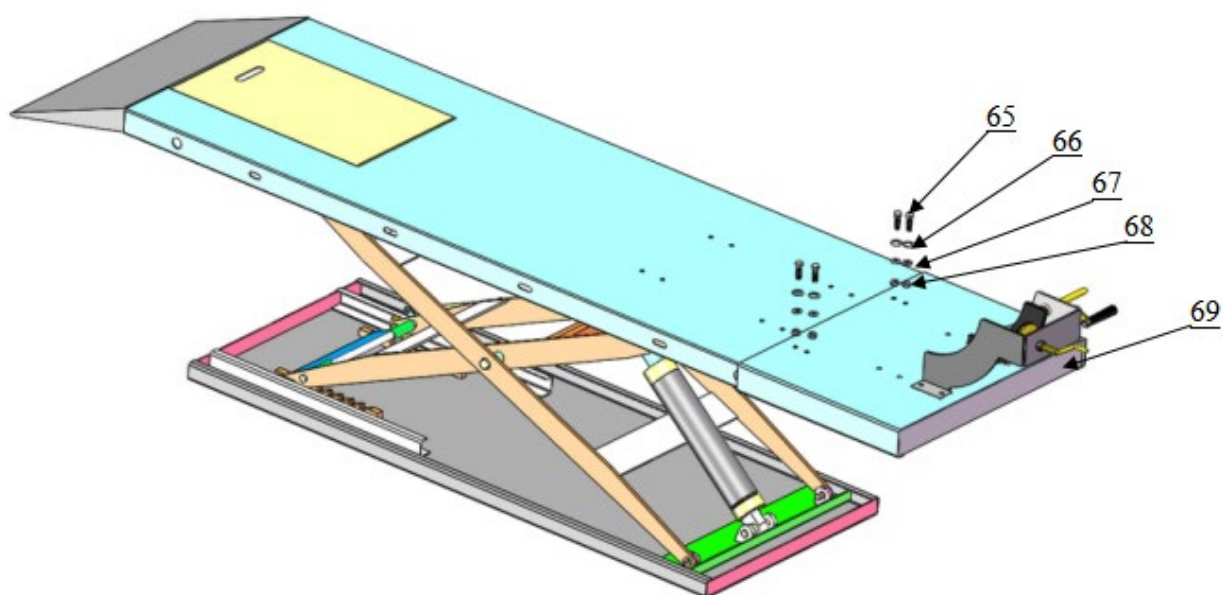

Fig.11
***G. Install optional Length extension kit(MC002). See Fig 11**